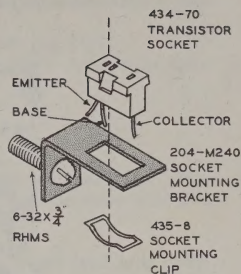

Figure 3
- (X) Refer to Figure 3 and insert a 6-32 x 3/4" RHMS (Round Head Machine Screw) first through the transistor L bracket, then insert the transistor socket in the bracket with the emitter and base connections next to the screw head. With the transistor socket in the L bracket, turn it upside down and force the mounting clip onto the socket with the points of narrow-nose pliers until the small spring tabs are retained in the depressions of the socket. Set this assembly aside until required.